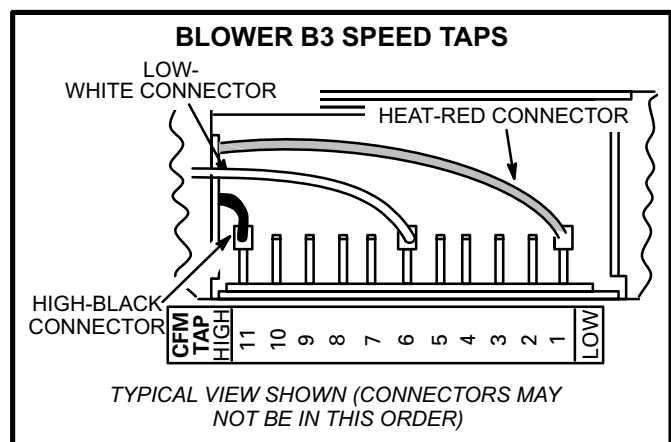

FIGURE 13
- 4- Remove the appropriate speed connector and place it on the proper tap. See figure 13.
*Refer to figure 13.